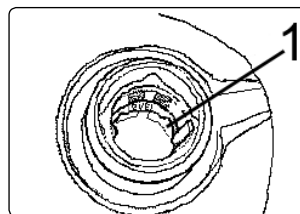

fig.3
6.2.1. To fill tank remove fuel tank cap and pour fuel into the tank up to the red line inside the filler tube fig.3.